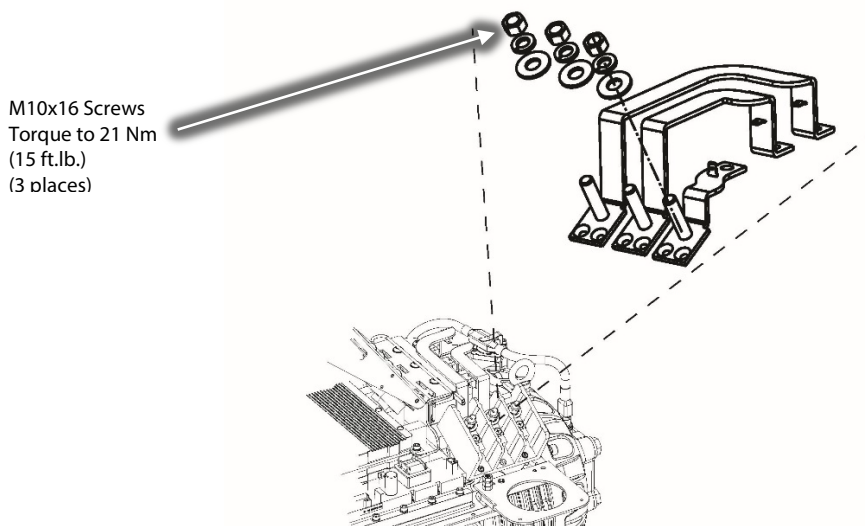

Figure 1 – Mains Input
2. Release the four (4) captive screws that secure the Mains Input Cover and remove the cover.
5. Release the nine (9) captive screws that secure the Top Cover and remove the cover, taking particular care not to touch ANY components underneath.
6. Using an appropriately rated volt meter, check the DC bus bars for voltage level. If the voltage is above 5VDC, wait five (5) minutes and recheck until 5VDC or below is achieved.
7. Disconnect 3 phase mains input wiring. Refer to Figure 1 (Mains Input).